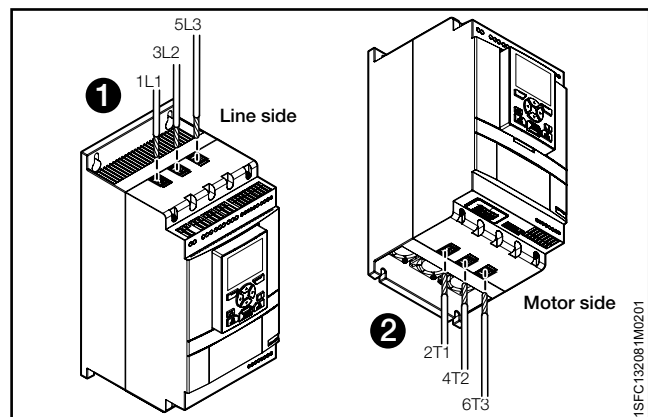
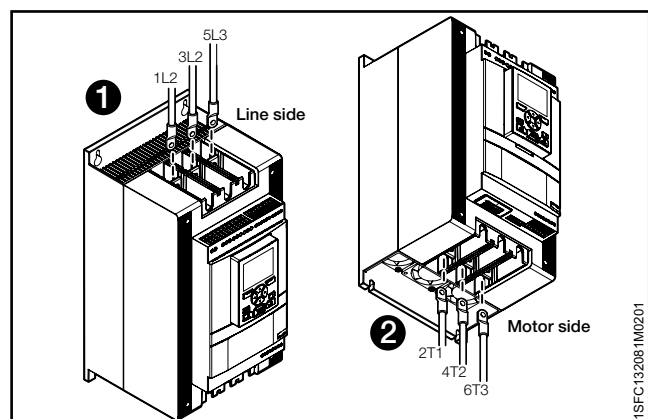

Figure 5.2
Figure 5.3
Use wire connection for PSTX30...105 see **Figure 5.2**
Terminal connection for PSTX142...1250 see **Figure 5.3**.
- Connect the line side to terminals 1L1, 3L2, 5L3, see **1** in **Figure 5.2** and **Figure 5.3**.
- Connect the motor to terminals 2T1, 4T2, 6T3 on the motor side, see **2** in **Figure 5.2** and **Figure 5.3**.